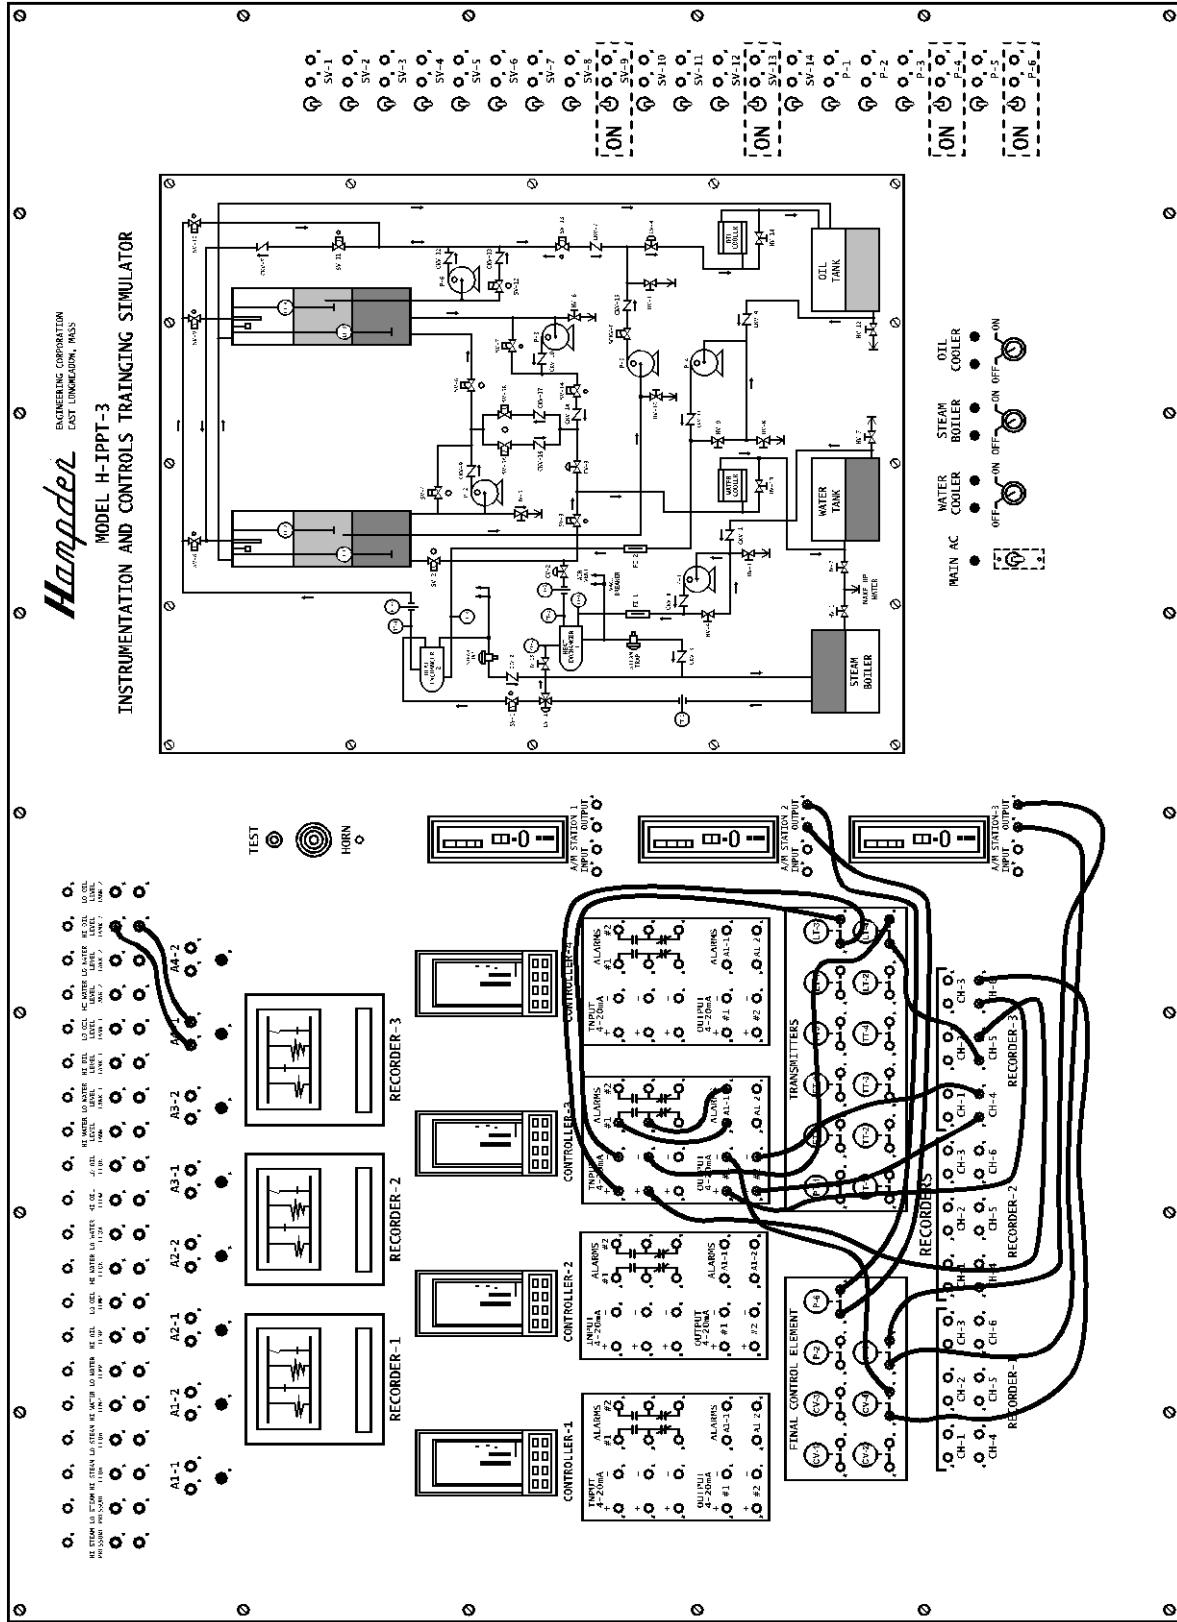

Figure 5: H-IPPT-3 Control Panel
5. Interconnect the process control equipment per Figure 5.